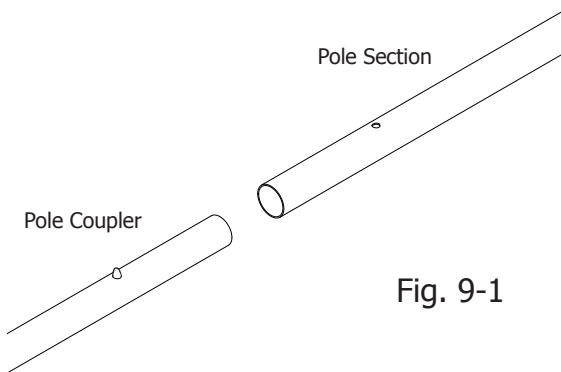

Fig. 9-1
9-1: Join two (2) 4-foot large pole sections together by inserting a large pole coupler into the end of one pole section (as shown in Fig. 9-1), depressing the spring button as it slides in. Continue sliding until the spring button pops out of the hole in the pole section. Repeat to add the second 4-foot pole section to the first.